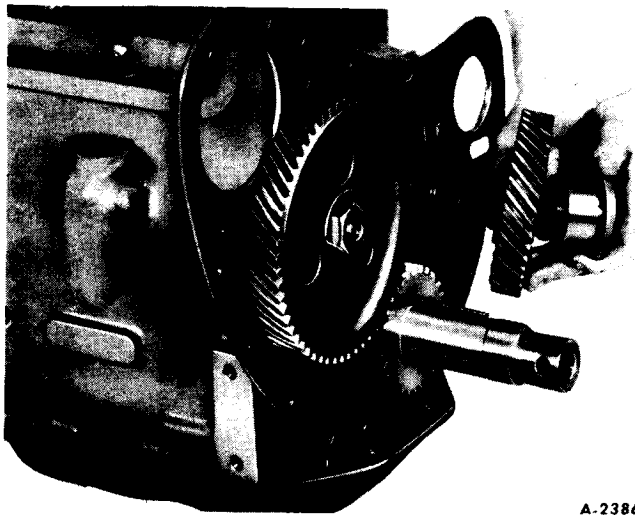

Fig. 4 - Removing the Idler Gear and Shaft.
8. NOT 135, 135B, 146 AND 153 SERIES: Remove the cap screw and washer securing the idler gear shaft to the crankcase. Remove the shaft with the idler gear (Fig. 4).
3. NOT 135, 135B, 146 AND 153 SERIES: Install the idler gear and shaft to the crankcase and secure with the screw torqued properly (Fig. 4).